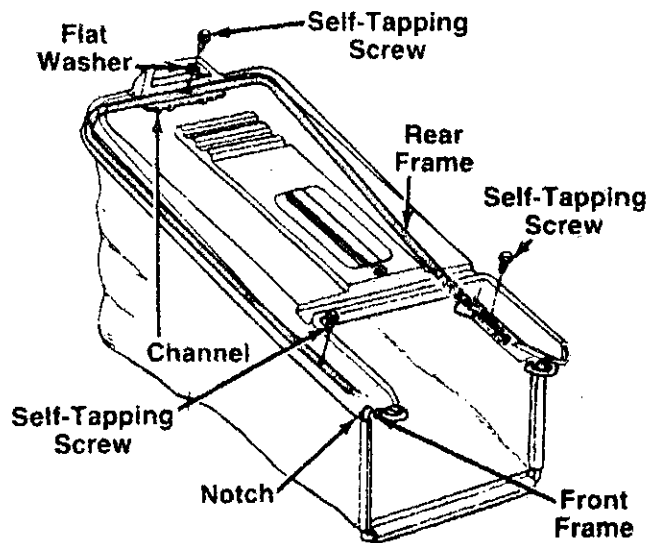

FIGURE 11.
4. Attach the hardtop cover to the grass catcher as follows. See figure 11.
- Attach rear of cover to frame using the flat washer and one self-tapping screw as shown in figure 11. Attach the sides of the cover to frame with the other two self-tapping screws.